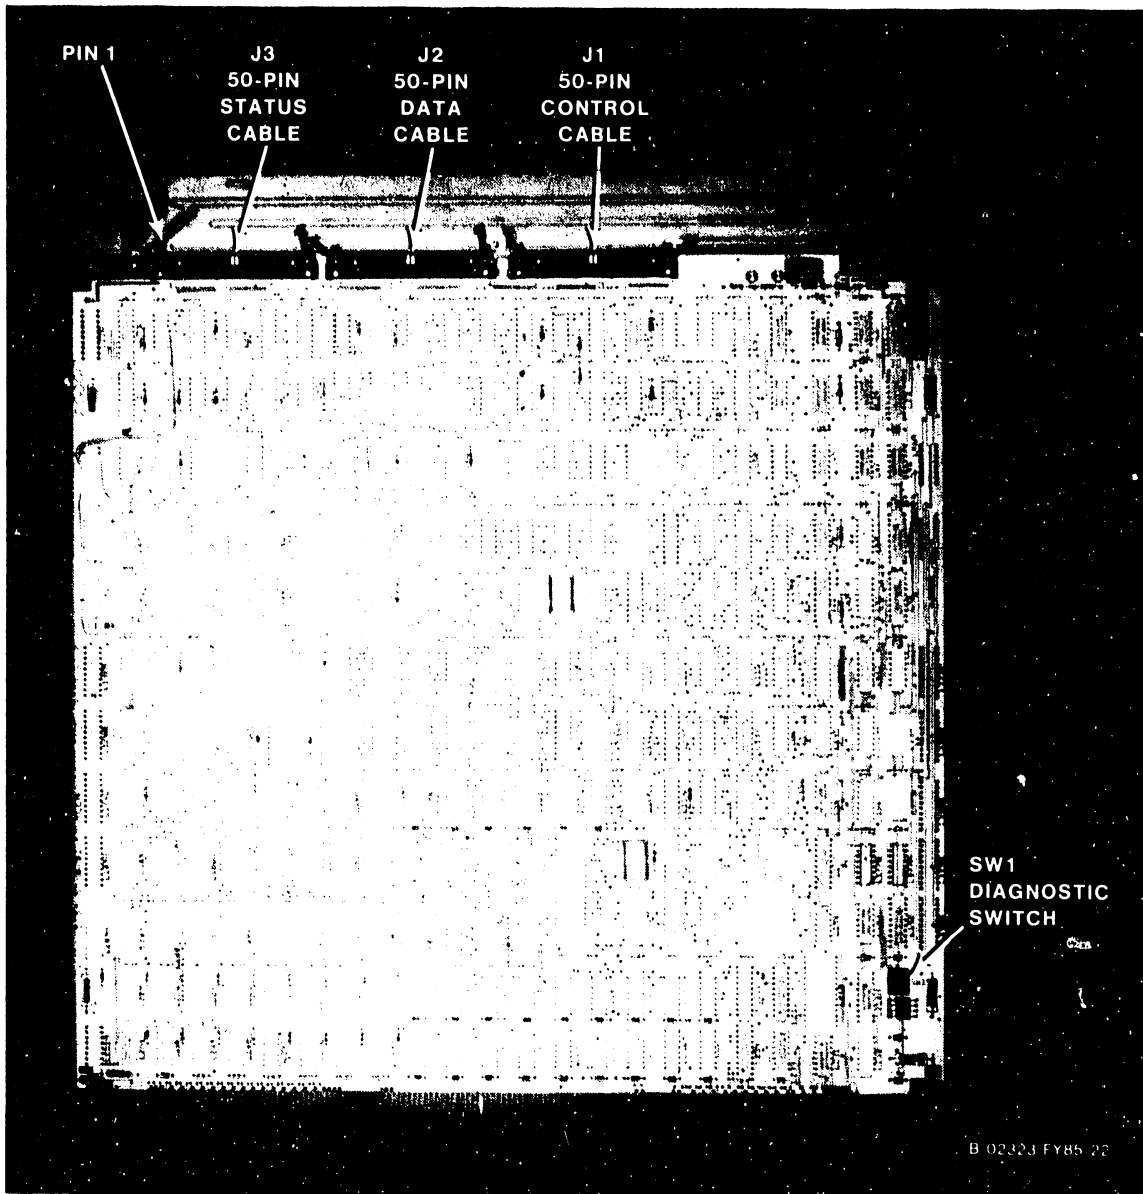

Figure 5-32. 23V95-2 Telex Tape IOC
1. Disconnect all cables from the top of the 23V95-2 Telex Tape IOC (figure 5-32). Note the position of all cables for later reassembly.